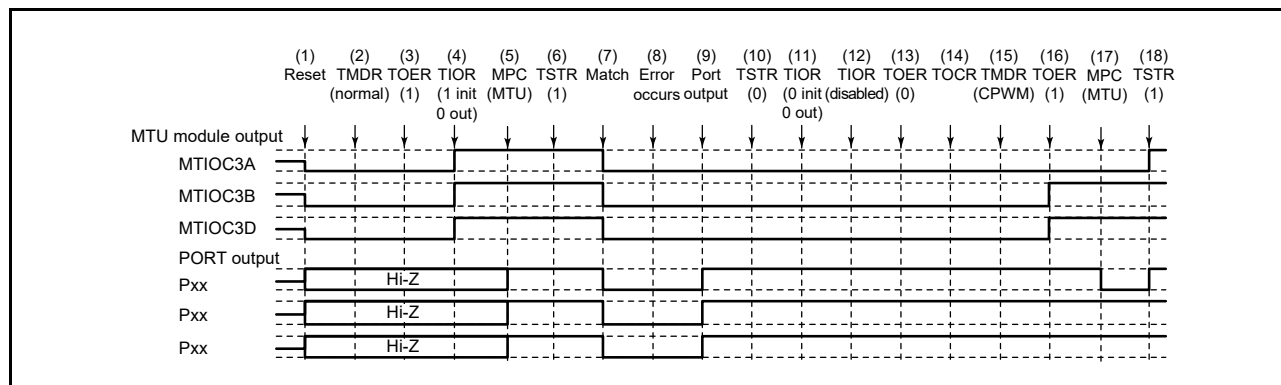

**Figure 19.147 Error Occurrence in Normal Mode, Recovery in Complementary PWM Mode**
Figure 19.147 shows a case in which an error occurs in normal mode and operation is restarted in complementary PWM mode after re-setting.
(1) to (13) are the same as in Figure 19.147.
(14) Select the reset-synchronized PWM output level and enable or disable cyclic output with registers TOCR1A and TOCR2A.
(15) Set reset-synchronized PWM mode.
(16) Enable output in MTU3 and MTU4 with the TOERA register.
(17) Set MTU output using the MPC and port mode registers (PMR) corresponding to the I/O ports.
(18) Restart operation by setting the TSTR register.